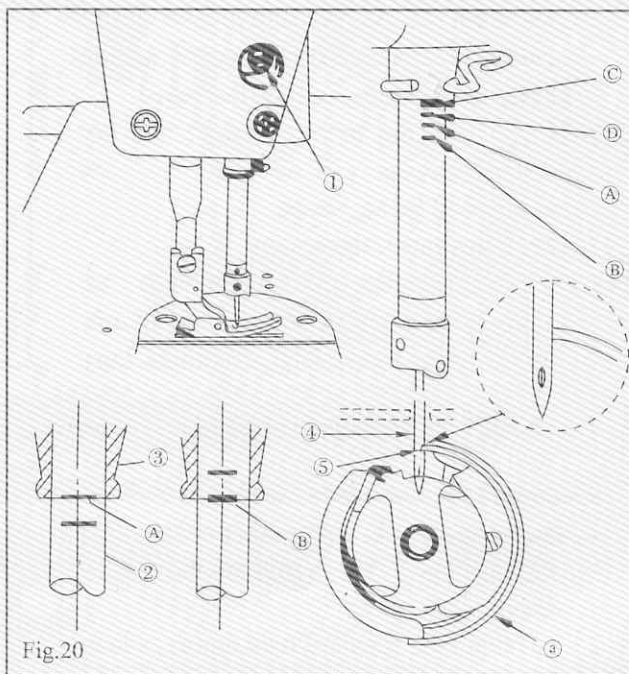

Fig.20
14. NEEDLE TO-HOOK RELATIONSHIP (Fig.20)